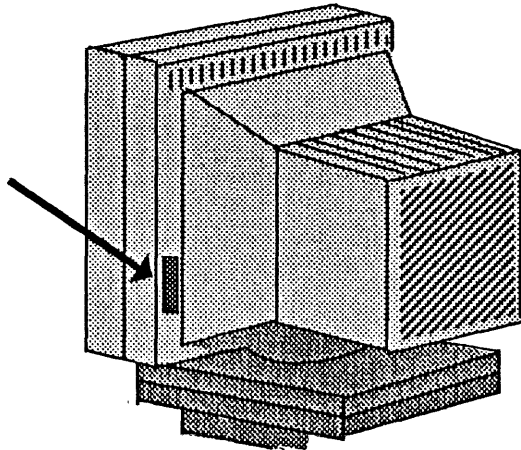

Figure 28. Adjusting the Brightness Control Knob
- Swivel and tilt the screen to adjust it for your comfort. To adjust the screen intensity, turn the Brightness Control Knob, located behind the screen on the right side, as illustrated in Figure 28.